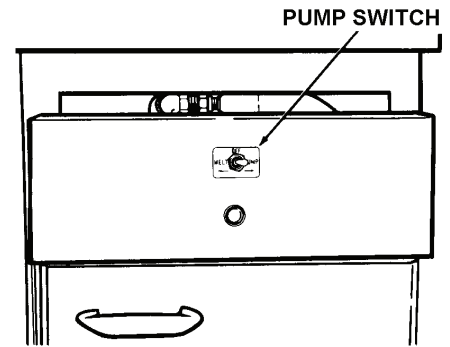

FIGURE 8. FILTER CONTROL PANEL
4. On the filter panel, turn the pump switch to the “Pump” or “ON” position. Refer to Figure 8.